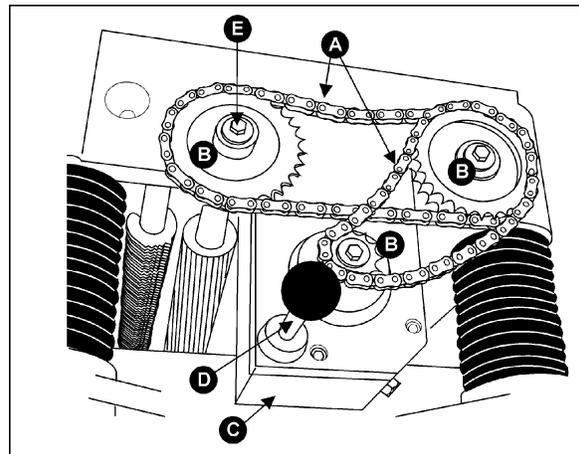
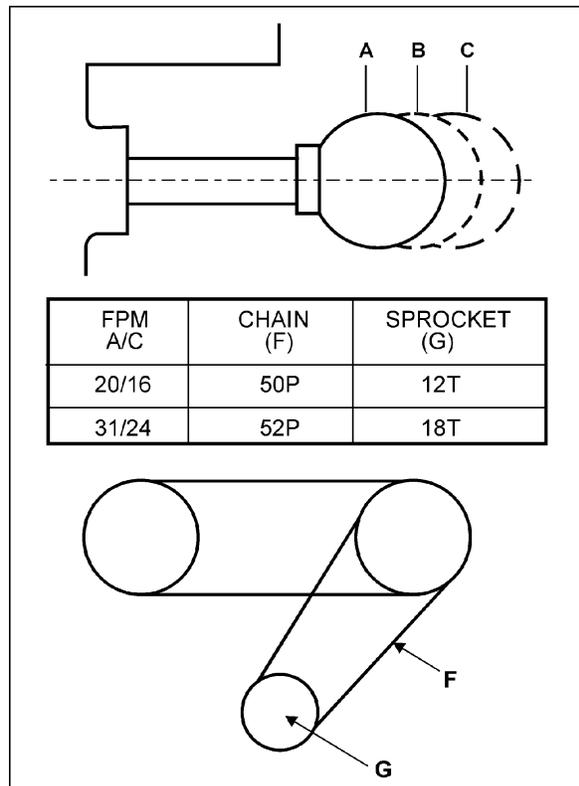

Figure 30
Figure 31
Your machine is equipped with a spiral, serrated infeed roller and a solid steel outfeed roller. When the feed rollers are engaged, they turn to feed the stock. The feed rollers slow automatically when the machine is under heavy load for best planing in all conditions. The feed rollers are driven by chains (A, Figure 30) and sprockets (B, Figure 30) which take power directly from the cutterhead through the oil bath gear box (C, Figure 30).
The gear box has two feed speeds. These are set by pulling out or pushing in the shift lever (D, Figure 30) while the machine is running. The feed speed range is shown in Figure 31.
The lowest feed speeds for your planer (16.2 fpm and 20.7 fpm) can be obtained by replacing the lower (gear shaft) sprocket and its chain (Figure 31).
2. Remove the three hex cap screws and washers (E, Figure 30).
3. Remove the three sprockets (B, Figure 30) from the infeed roller, outfeed roller and the gear shaft at the same time.
4. When all sprockets have been removed, replace the gear shaft sprocket (G, Figure 31) and its chain (F, Figure 31) with those of a different size.
5. Mount all three sprockets and chains to their shafts and tighten all hex cap screws and washers (E, Figure 30).